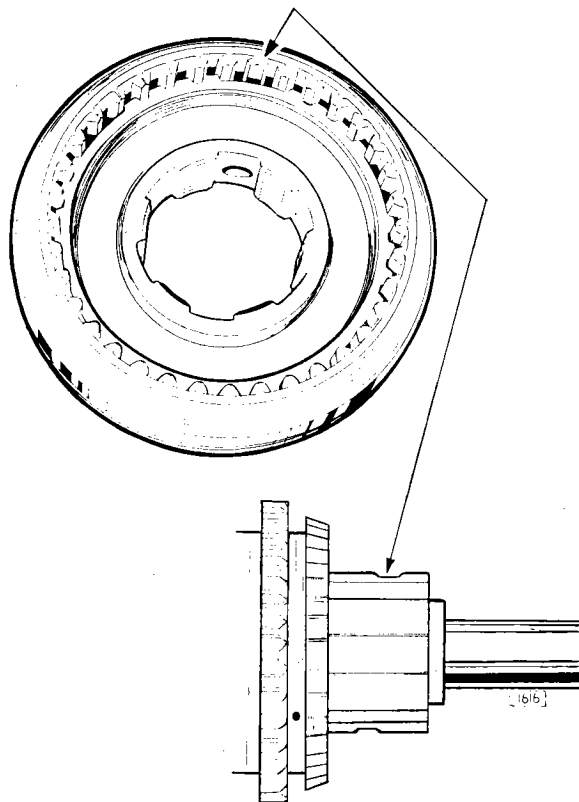

Fig. 19. The relieved tooth at the wide chamfer end of the outer operating sleeve must be in line with the foremost groove in the mainshaft.
- (a) There are two transverse grooves on the mainshaft splines which take the third/top synchro assembly and the relieved tooth at the wide chamfer end of the outer operating sleeve must be in line with the **foremost** groove in the mainshaft (Fig. 19). Failure to observe this procedure will result in the locking plungers engaging the wrong grooves thereby preventing full engagement of top and third gears.